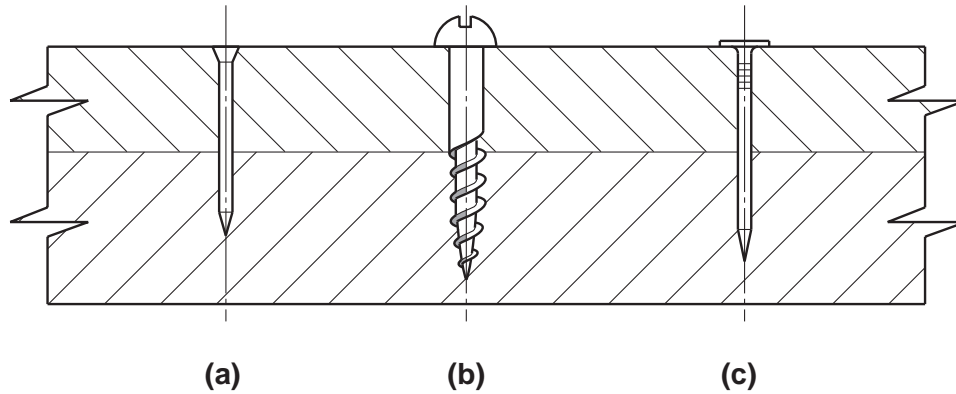

Fig. 1
- 1 Fig. 1 shows three fixings for joining wood.